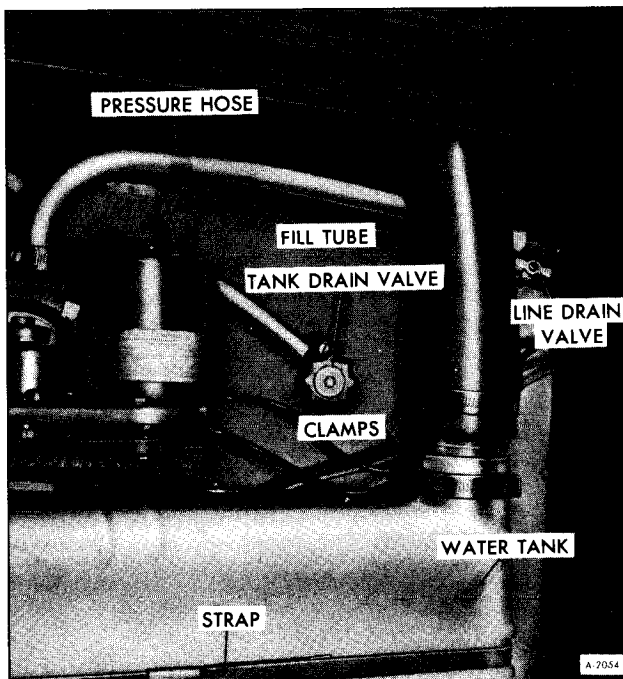

Figure 5—Water Tank Drain Valve Location
2. Open tank drain valve as shown in Figure 5 and allow tank to drain.